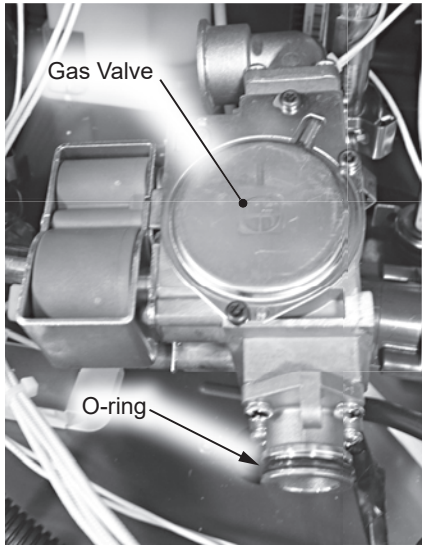

Figure 82 - O-ring replacement (one o-ring)
- 12 Locate the new gas valve o-ring, install it as shown in Figure 82.